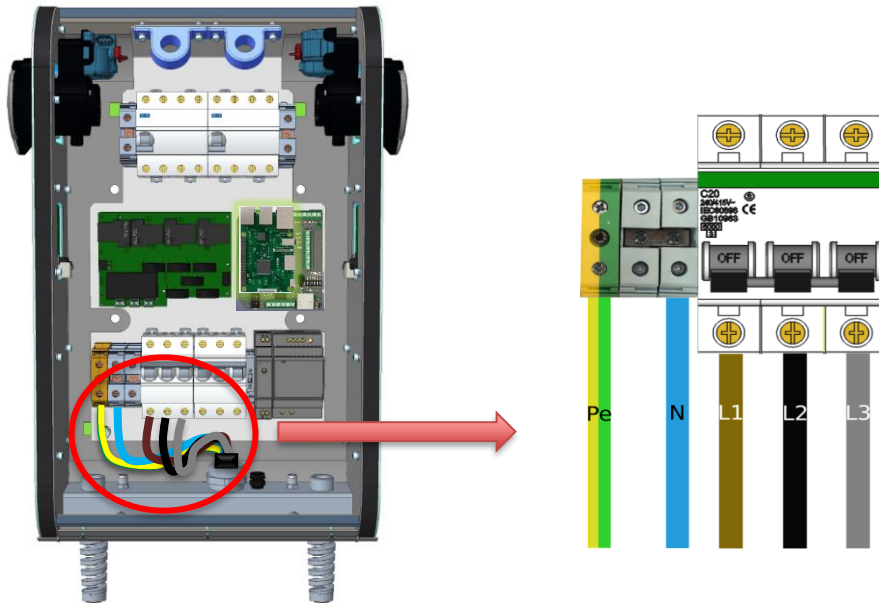

Figure 9: Supply cables connection in TN-S network
- Connect the lead-in wires in the TN-S network, as shown below in Figure 9.